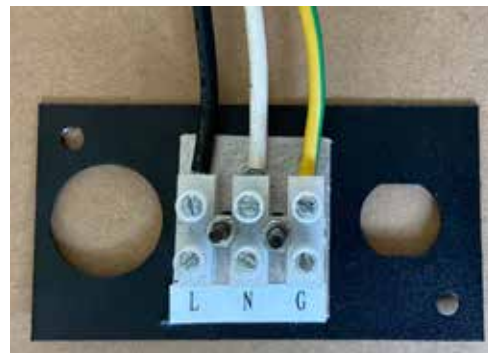

Figure 8 - Wiring
- Attach the wiring to the wire connector. Please make sure the live wire (Black) goes into the "L", the neutral wire (White) goes into the "N" and the ground wire (Green) goes into the "G". See **Figure 8**.